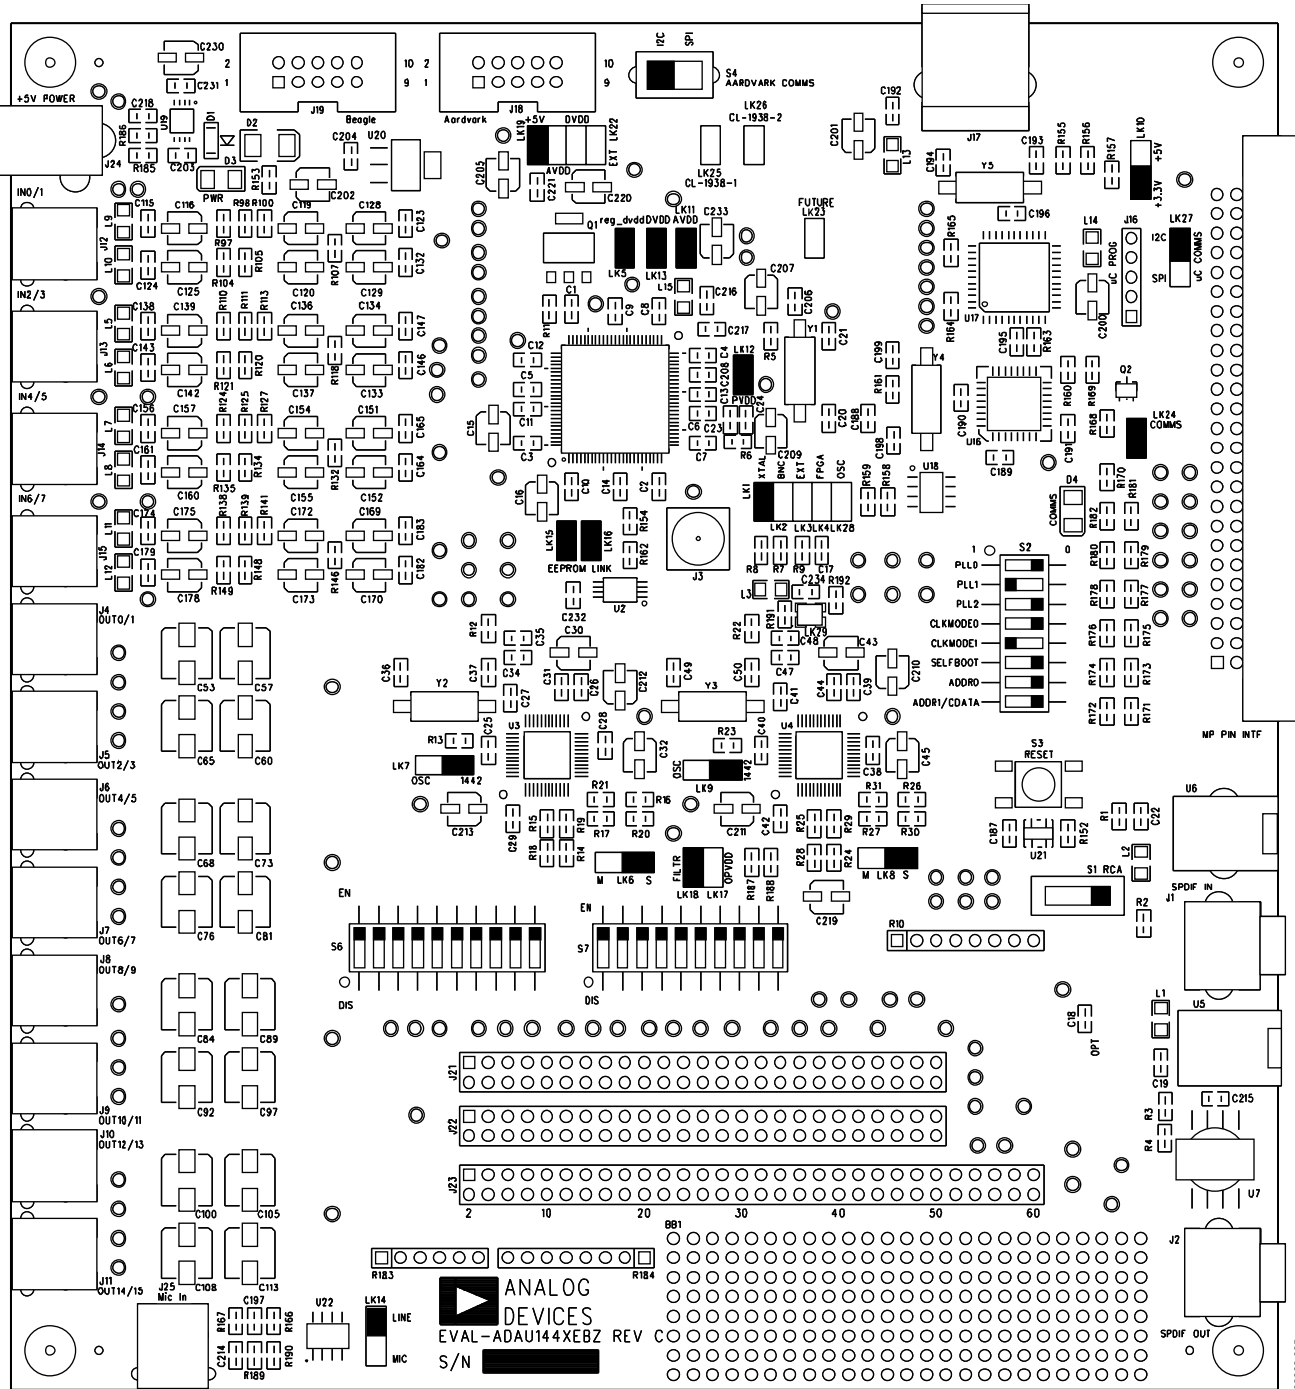

Figure 35. Default Switch and Jumper Settings
- Set the switches and jumpers to correspond to the default settings in Figure 35. A black rectangle corresponds to the position of a switch or jumper.
the DSP, back through the codecs, and to the output connectors. Descriptions with direction references are based on the orientation of the board shown in Figure 35.